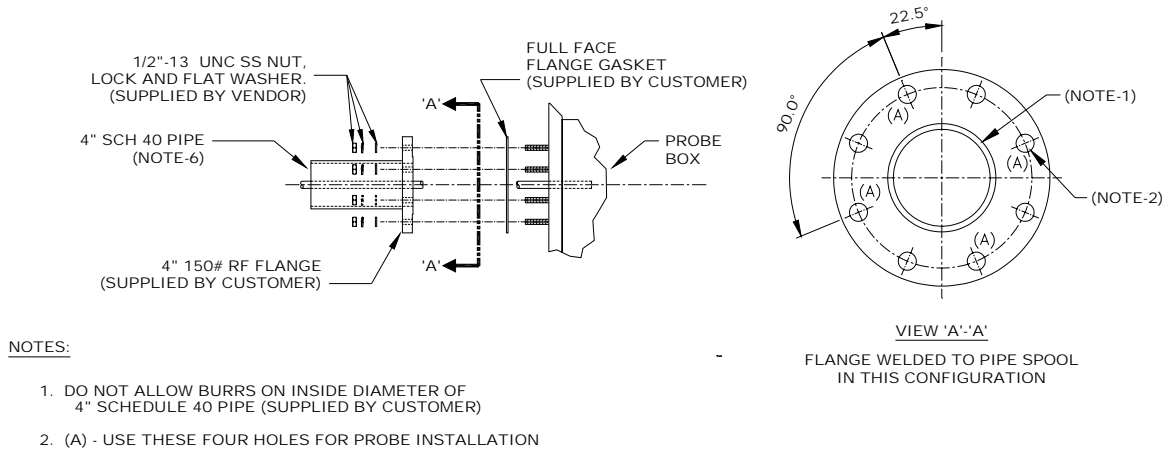

Figure 3.3.1-2 Customer Pipe Spool Installation
Install the enclosure on the four (4) inch flange using a proper flange gasket and four 1/2 inch X 1 3/4 inch stainless steel bolts, (See Figure 3.3.1-2).
- Inspect the probe barrel assembly for proper flange spacing and orientation (factory set), Figure 3.3.1-2.
- Insert the three (3) supplied 1/4-20 X 1-3/4 inch bolts through the probe mounting flange into the threaded holes, and tighten.